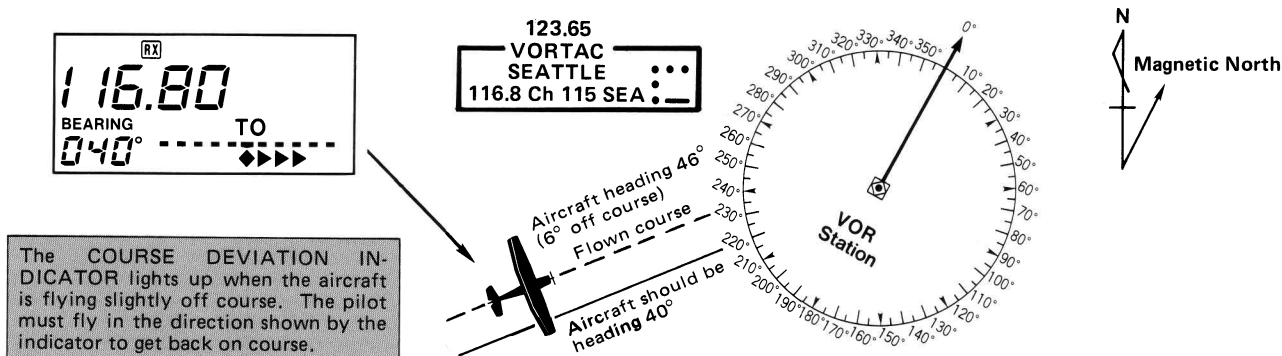

Figure 2 The aircraft is flying off course
- "▶▶▶▶" appears on the FUNCTION DISPLAY when your aircraft is off the desired course. (See Figure 2)